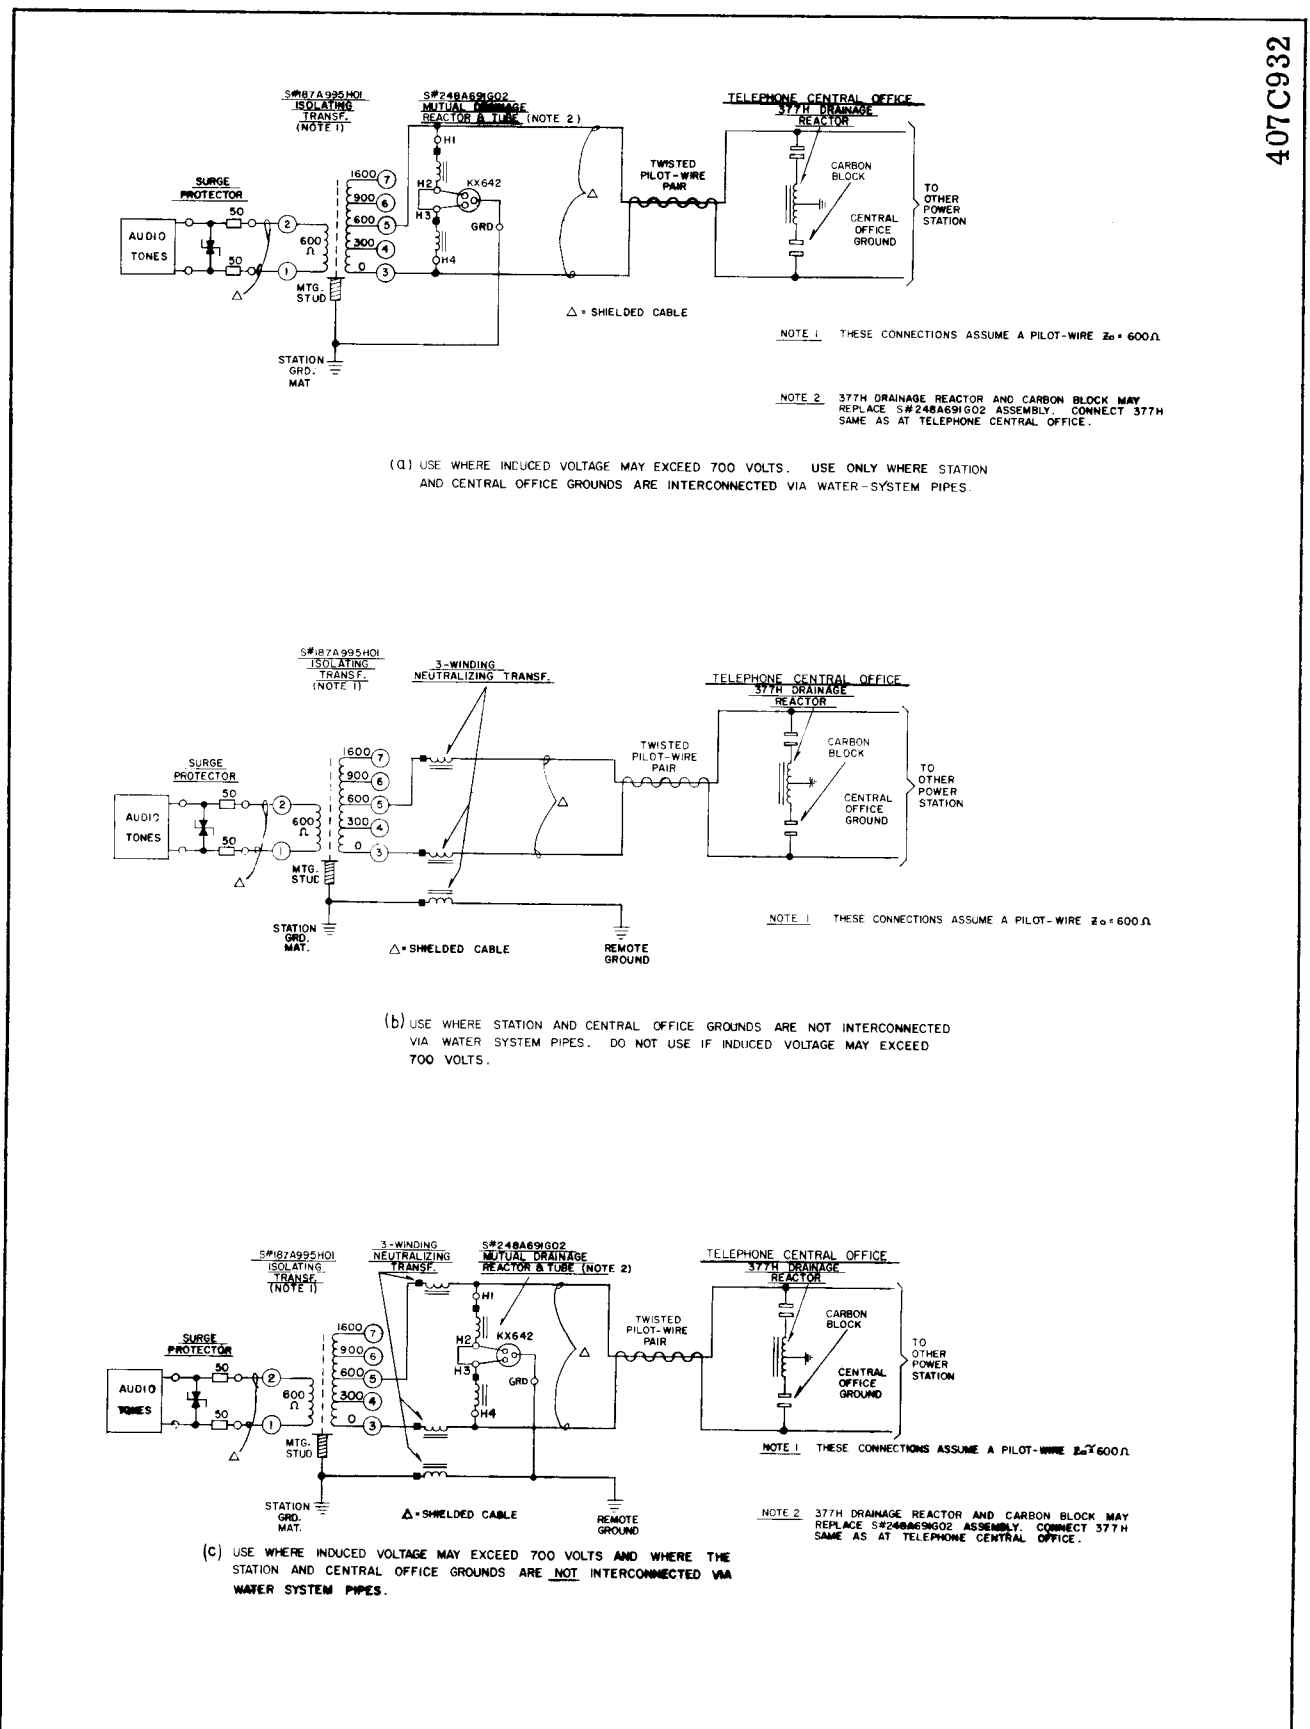

Fig. 2. Recommended Connections and Protective Arrangements for Two-Terminal Lines
- b. If KX642 gas tubes are installed, connect them to ground only as shown in Figure 2. Do not connect the tube without shorting H2 to H3. This is especially important where the noise receiver is used, as a failure to follow these recommendations will result in the squelch disabling the channel whenever the tube flashes.